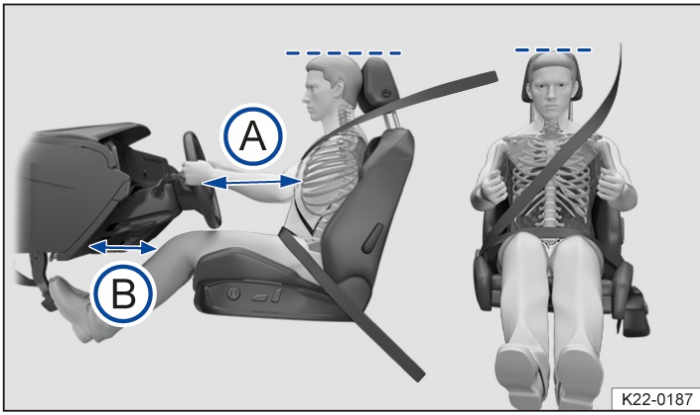

Fig. 1 Correct distance between the driver and the steering wheel, correct seat belt routing and correct head restraint adjustment (illustration).
- Adjust the head restraint so that its upper edge is at the same height as the top of the head, but not lower than eye level. Position the back of your head as close to the head restraint as possible at all times → Fig. 1.